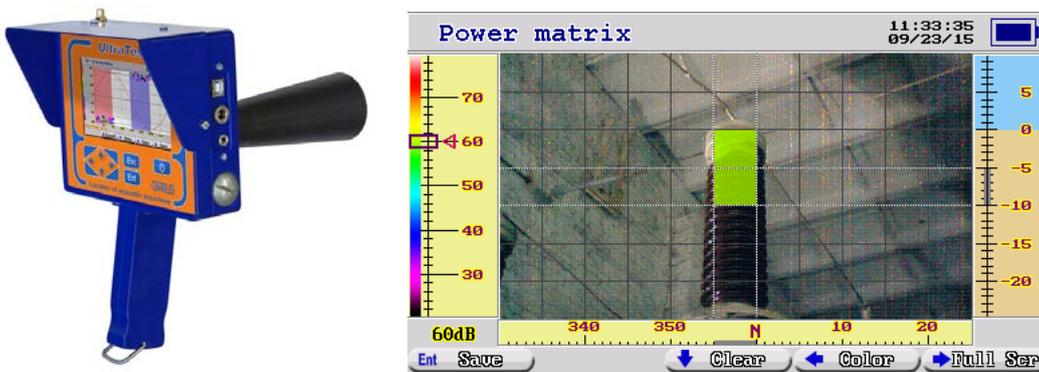

Figure 7 UltraTest Device
5. UltraTest Device (see Figure 7)